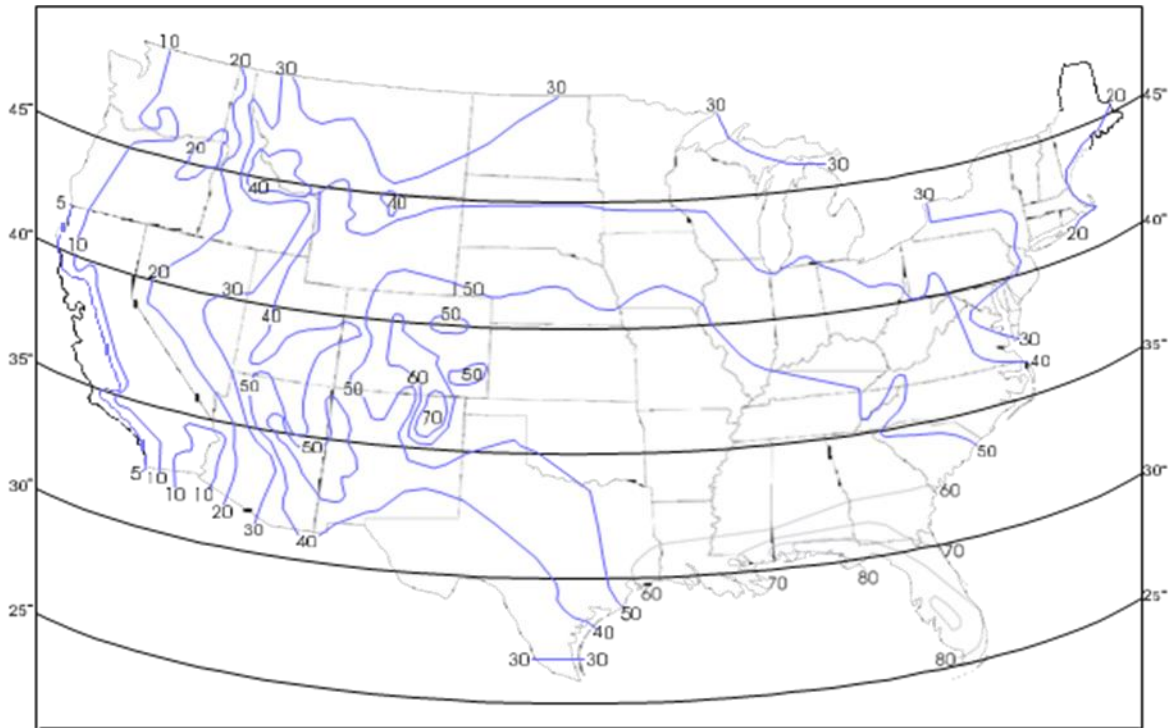

Figure 4-1. Chance of Being Struck by Lightning
The map of Figure 4-1 shows the average annual number of thunderstorm days (Isokeraunic level) for the various regions within the continental U.S.A. This map is not representative of the severity of the storm or the number of lightning strikes since it does not take into account more than one lightning strike in a thunderstorm day. The Isokeraunic or Isoceraunic number provides a meteorological indication of the frequency of thunderstorm activity; the higher the Isokeraunic number the greater the lightning strike activity for a given area. These levels vary across the world from a low of 1 to a high of 300. Within the United States the Isokeraunic level varies from a low of 1 to a high of 100.
1. Using the map of Figure 4-1 (or a comparable meteorological map for your location), find the Isokeraunic level (I) for your area. Then using Chart 1, find “A” for your area.
2. Refer to Figure 4-1 to find the latitude. Then using Chart 2, find “B” for your latitude (Lat.°).